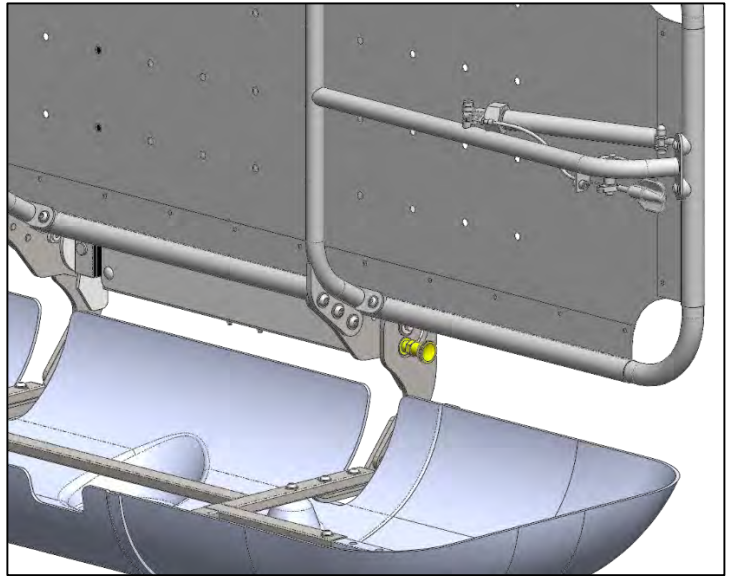

Fig. 14
- Locate the plunger pin on the right-hand side of the back frame (highlighted in Fig.14).
- To move the stretcher and drip tray down together, locate the plunger pin on the right-hand side of the back frame (highlighted in Fig.14).
- Pull the head of the plunger pin on the right-hand side of the back frame (Fig.14) and with your other hand, start to lift the shower stretcher.